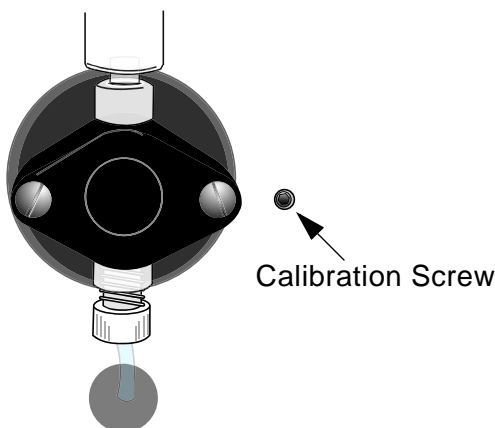

Figure 5-11. Pump Calibration Screw
6. Locate the pump's calibration screw in the hole on the right side of the pump (see Figure 5-11).